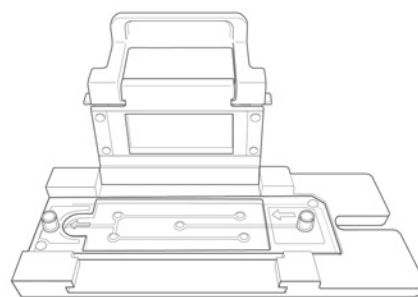

Fig. 22. Manifold loaded into the Celselect Slide Station.
1. Place the Slide Manifold onto the Slide Station using the two positioning pins. The arrows on the Manifold should point to the left when the Slide Station is oriented horizontally with the clamp on the opposite side to the user (Figure 22).